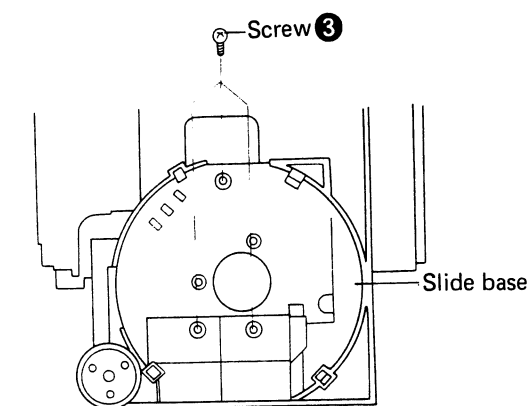

Fig. 5-8 Slide base remove
8. The slide base can be removed by loosening screw ③ (Figure 5-8).